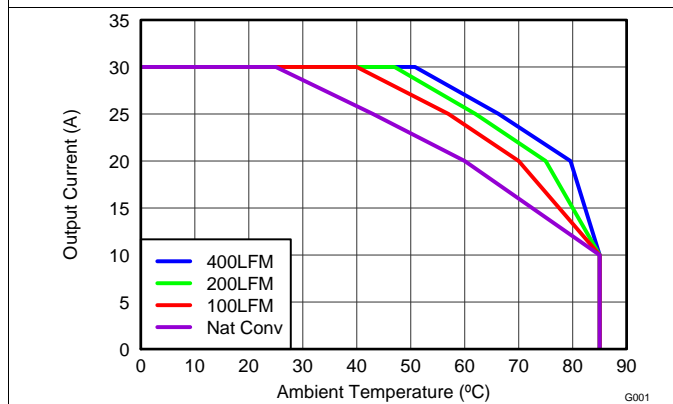
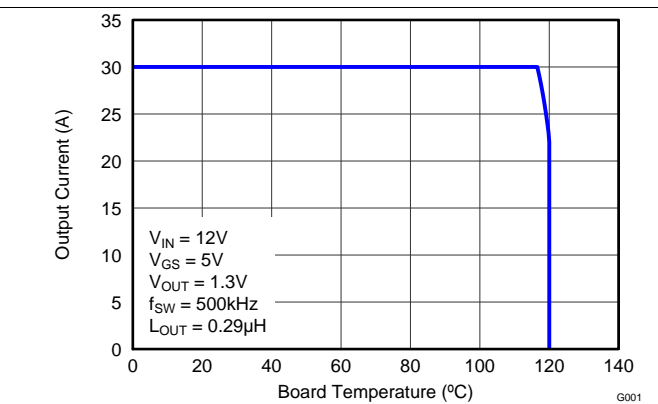

Figure 3. Safe Operating Area – PCB Horizontal Mount
Figure 4. Typical Safe Operating Area
$T_J = 125^{\circ}\text{C}$, unless stated otherwise. For Figure 3 and Figure 4, the Typical Power Block System Characteristic curves are based on measurements made on a PCB design with dimensions of 4.0 inches (W) x 3.5 inches (L) x 0.062 inch (H) and 6 copper layers of 1 oz. copper thickness. See *Application and Implementation* for detailed explanation.
$T_J = 125^\circ\text{C}$, unless stated otherwise. For Figure 3 and Figure 4, the Typical Power Block System Characteristic curves are based on measurements made on a PCB design with dimensions of 4.0 inches (W) x 3.5 inches (L) x 0.062 inch (H) and 6 copper layers of 1 oz. copper thickness. See Application and Implementation for detailed explanation.
The SOA curves in the CSD87384M data sheet provide guidance on the temperature boundaries within an operating system by incorporating the thermal resistance and system power loss. Figure 3 to Figure 4 outline the temperature and airflow conditions required for a given load current. The area under the curve dictates the safe operating area. All the curves are based on measurements made on a PCB design with dimensions of 4 inches (W) × 3.5 inches (L) × 0.062 inch (T) and 6 copper layers of 1 oz. copper thickness.